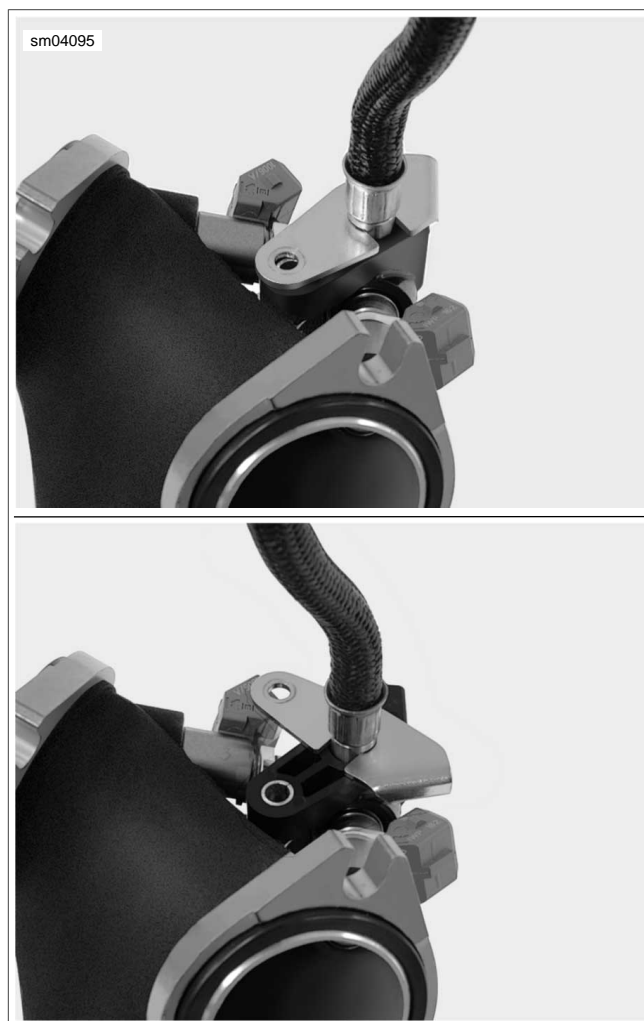

Figure 4-32. Rotate Fuel Supply Tube Clamp
3. See Figure 4-32. Rotate fuel supply tube clamp 90 degrees in a clockwise direction and then remove from groove in fuel supply tube fitting.